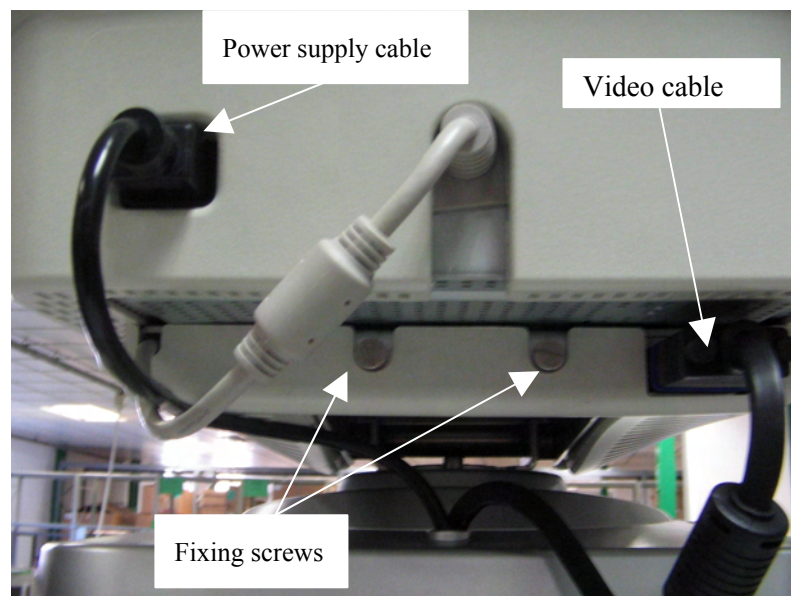

Figure 67.
- Unscrew the fixing screws (shown in Figure 67) and slide the monitor to the backside.